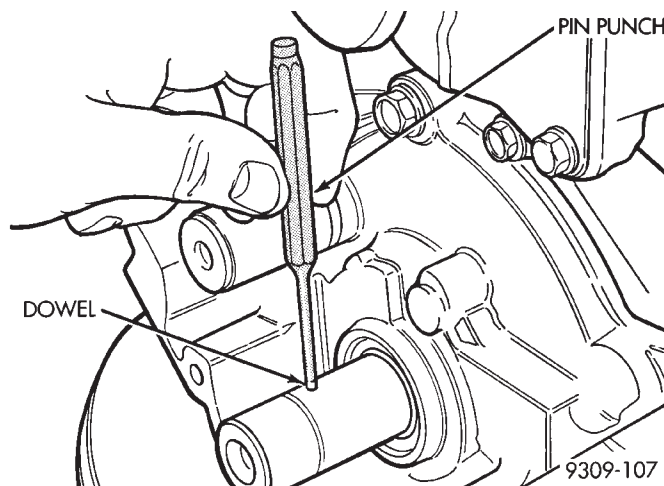

Fig. 8 Removing/Installing Crankshaft Sprocket Dowel Pin
(3) Tap the dowel pin out of the crankshaft (Fig. 8).
(7) Install the dowel pin into the crankshaft to 1.2 mm (0.047 inch.) (Fig. 8).